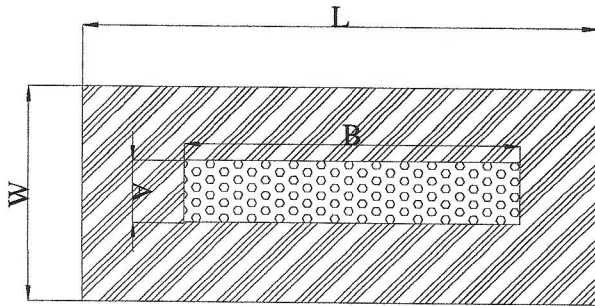
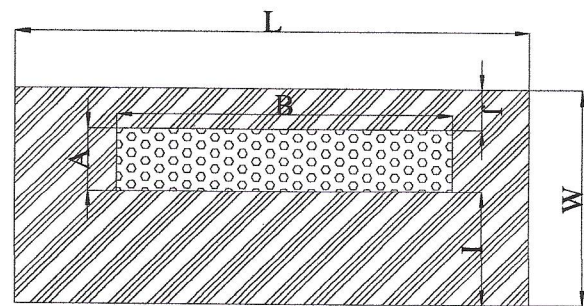

Figure 5A Level Site
Figure 5B One direction slope
For level sites, the total basal area, excluding end shape area [length of distribution cell (B) x width of fill and cover (W) beneath the fill and soil cover is available for effluent absorption into the soil (see Figure 5a).
For sloping sites, the available basal area is the fill and soil cover or (A + I) times the length of the distribution cell (B) (see Figure 5b.). The up slope width and end slopes are not included as part of the total basal area.
into the soil (see Figure 5a). For sloping sites, the available basal area is the fill and soil cover or  $(A + I)$  times the length of the distribution cell  $(B)$  (see Figure 5b.). The up slope width and end slopes are not included as part of the total basal area.